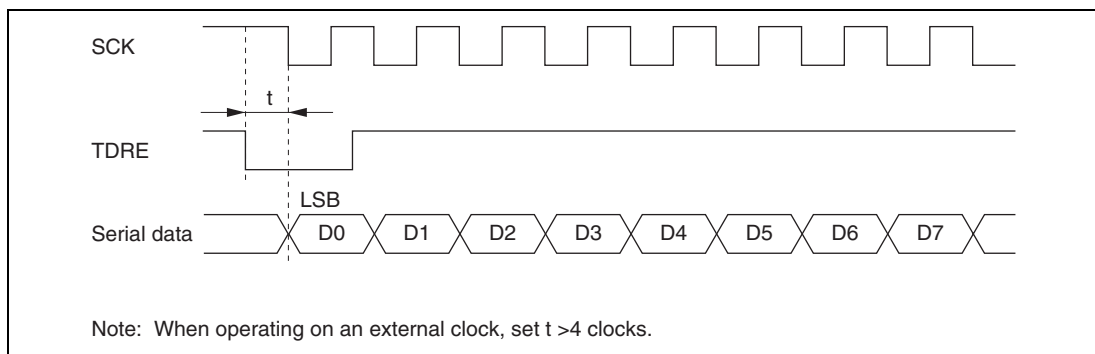

Figure 16.24 Example of Clocked Synchronous Transmission by DTC*
- When an external clock source is used as the serial clock, the transmit clock should not be input until at least 5 ϕ clock cycles after TDR is updated by the DMAC or DTC. Misoperation may occur if the transmit clock is input within 4 ϕ clocks after TDR is updated. (Figure 16.24)